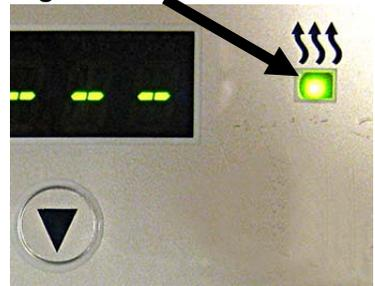

Figure 2
6. Once the controller completes booting up, when the heat light illuminates (see Figure 2), time the seconds it takes before the controller displays HEATING FAILURE. If it takes 4 seconds after the heat light is illuminated to display HEATING FAILURE and alarm no further action is necessary, as the software is working correctly. If it alarms 1 second after the heat light is illuminated, proceed to the next step to correct the alarm time.